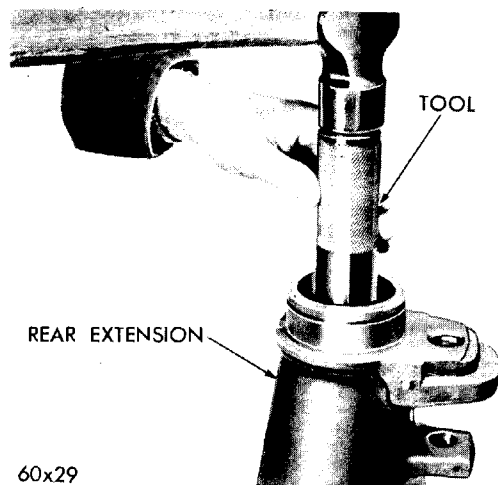

Fig. 26—Removing Output Shaft Rear Bushing
(7) With the larger end of the extension housing on a flat surface, use bushing removing driver, Tool C-3689, and drive bushing out of housing. Refer to Figure 26.